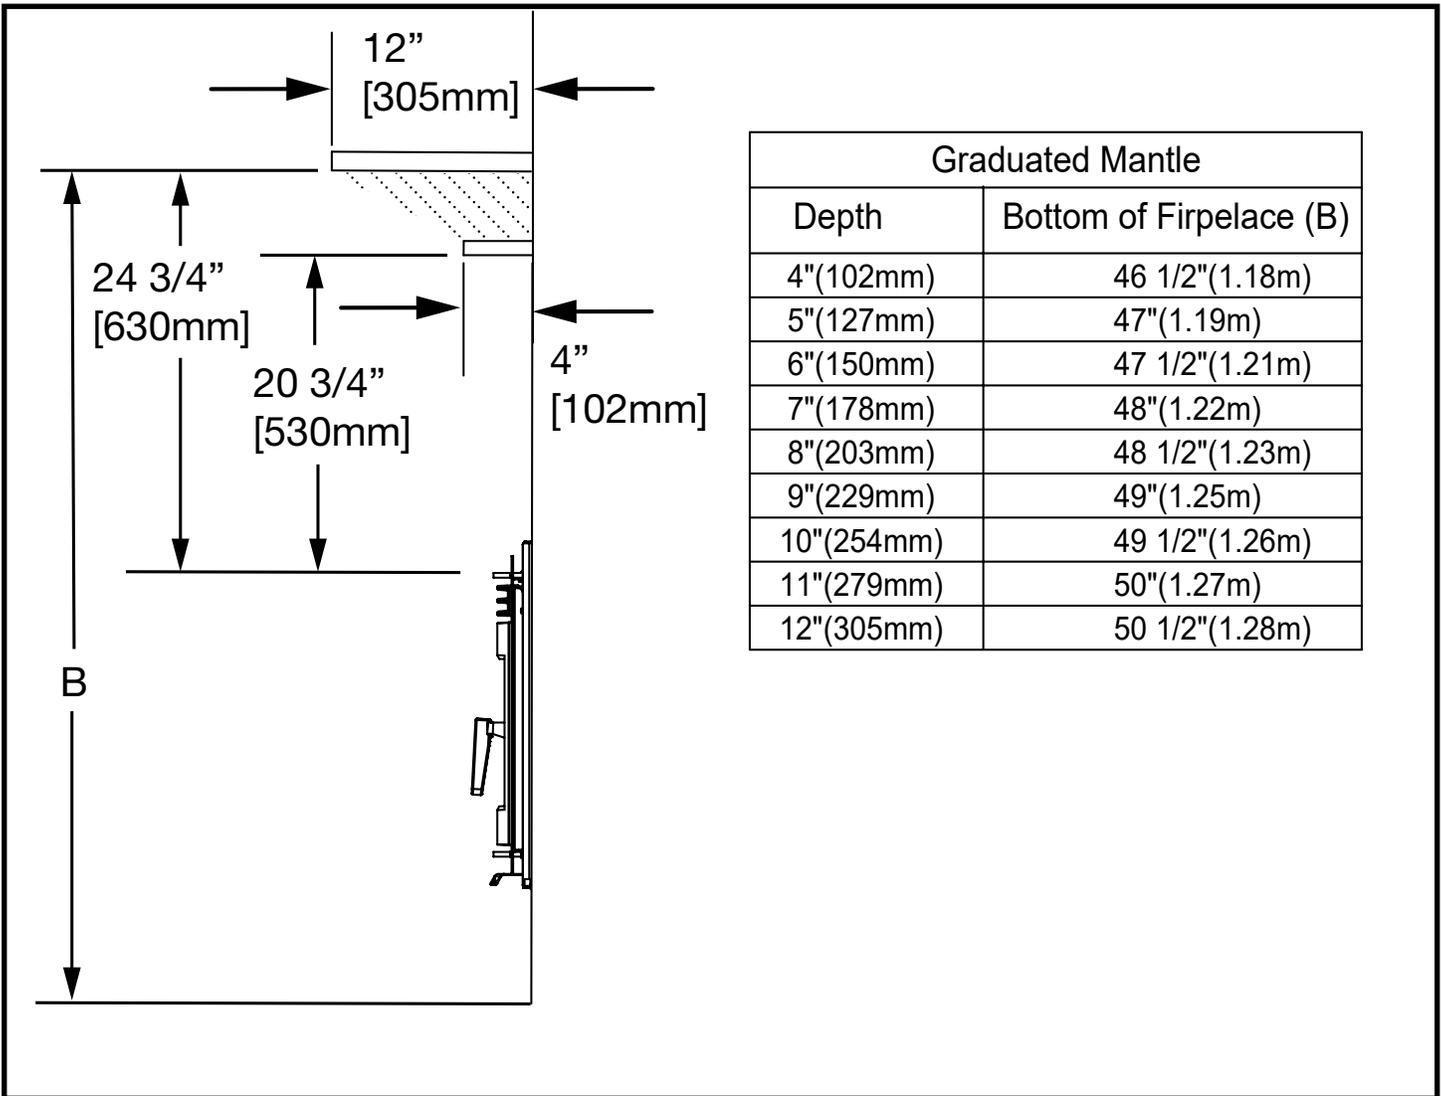

Figure 24: FP16 LE Mantel Clearance Chart.
- Above the Heat Exchanger's Air Deflector up to a minimum of "Figure 24: FP16 LE Mantle Clearance Chart." on page 27, depending on depth.